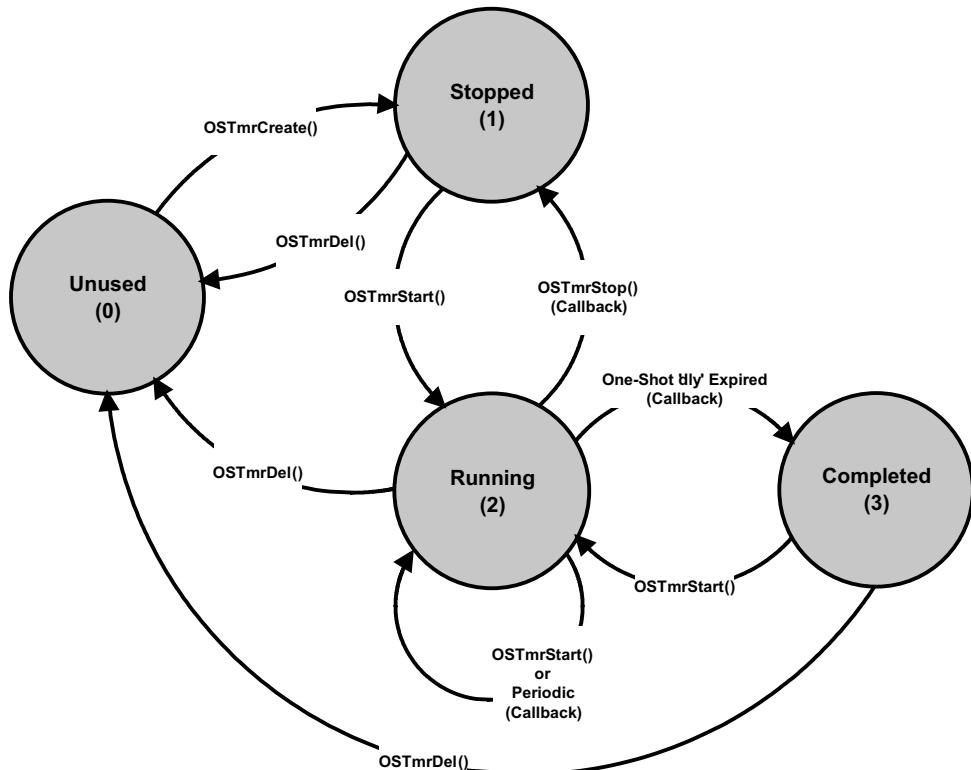

Figure 12-5 Timer State Diagram
Figure 12-5 shows the state diagram of a timer.
- L12-1(3) Each kernel object can be given a name for easier recognition by debuggers or µC/Probe. This member is simply a pointer to an ASCII string which is assumed to be NUL terminated.
- L12-1(4) The **.CallbackPtr** member is a pointer to a function that is called when the timer expires. If a timer is created and passed a **NULL** pointer, a callback would not be called when the timer expires.
- L12-1(5) If there is a non-**NULL** **.CallbackPtr** then the application code could have also specified that the callback be called with an argument when the timer expires. This is the argument that would be passed in this call.
- L12-1(7) A timer expires when the timer manager variable **OSTmrTickCtr** reaches the value stored in a timer's **.Match** field. This is also described later.
- L12-1(8) The **.Remain** field contains the amount of time remaining for the timer to expire. This value is updated once per **OS_CFG_TMR_WHEEL_SIZE** (see **os_cfg_app.h**) that the timer task executes (described later). The value is expressed in multiples of **1/OS_CFG_TMR_TASK_RATE_HZ** of a second (see **os_cfg_app.h**).
- L12-1(9) The **.Dly** field contains the one-shot time when the timer is configured (i.e., created) as a one-shot timer and the initial delay when the timer is created as a periodic timer. The value is expressed in multiples of **1/OS_CFG_TMR_TASK_RATE_HZ** of a second (see **os_cfg_app.h**).
- L12-1(10) The **.Period** field is the timer period when the timer is created to operate in periodic mode. The value is expressed in multiples of **1/OS_CFG_TMR_TASK_RATE_HZ** of a second (see **os_cfg_app.h**).
- L12-1(11) The **.Opt** field contains options that are passed to **OSTmrCreate()**.
- L12-1(12) The **.State** field represents the current state of the timer (see Figure 12-5).